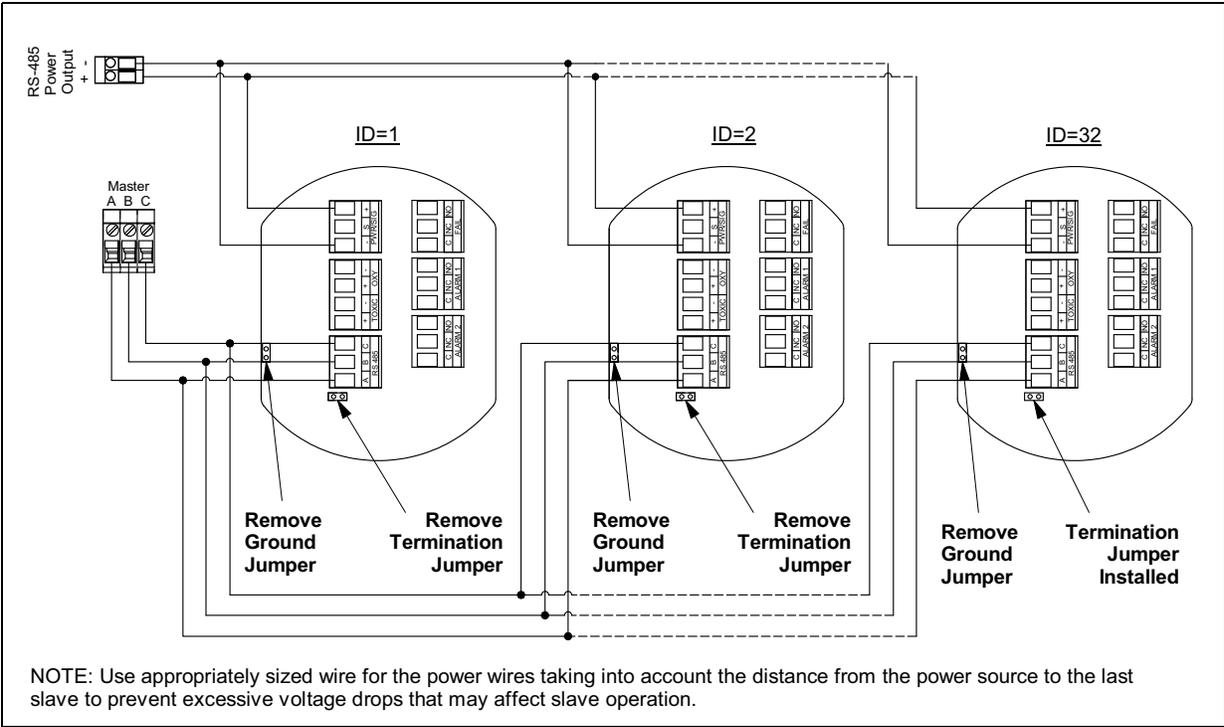
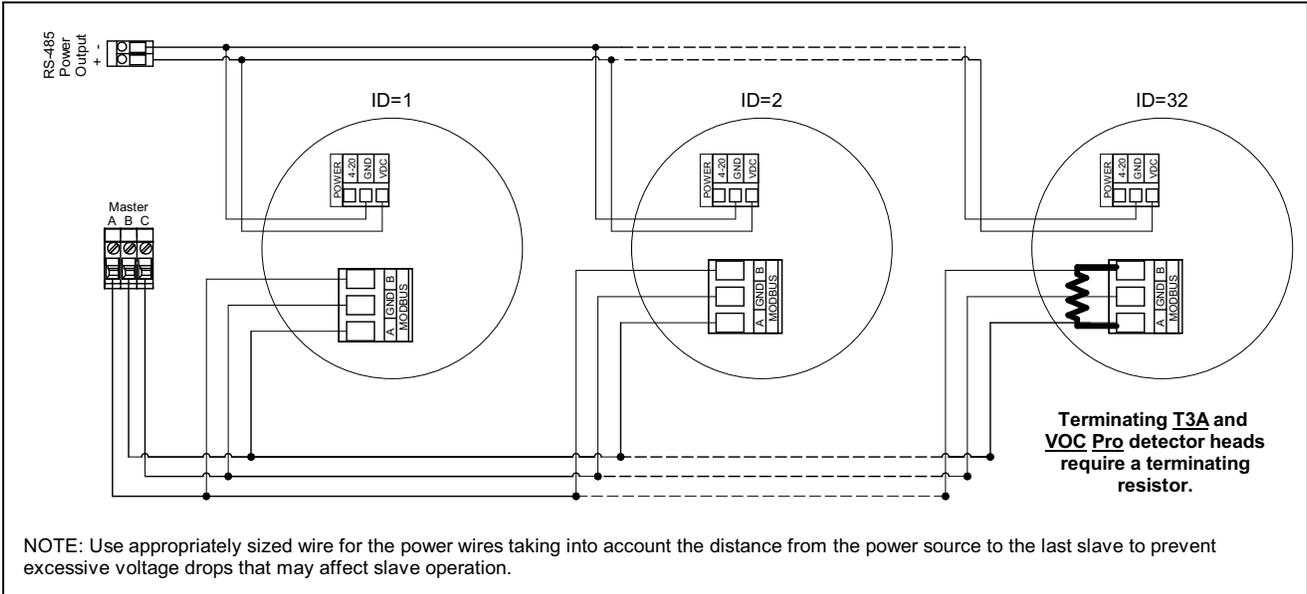
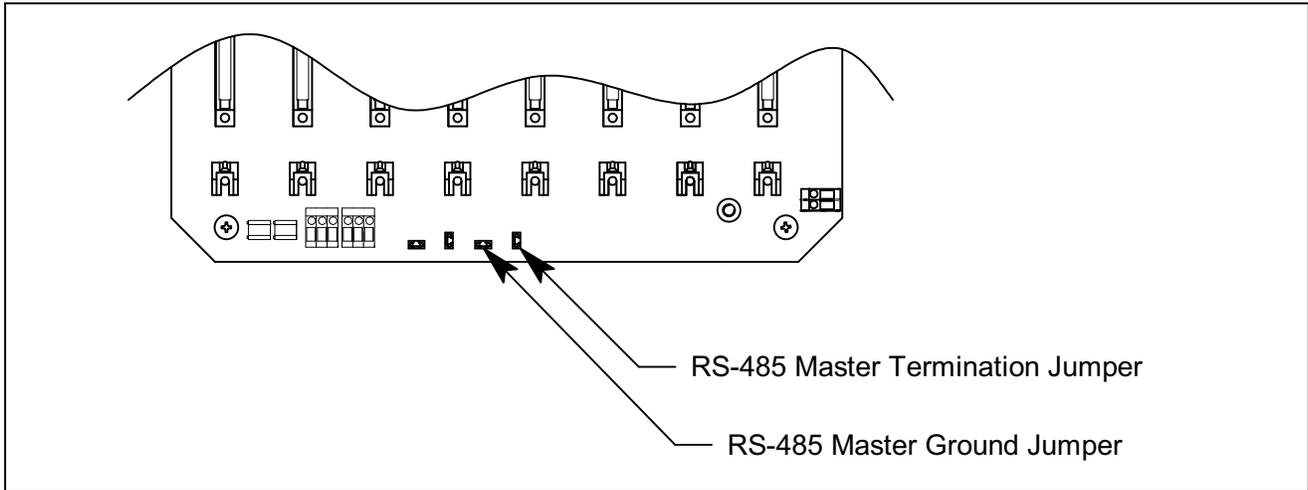
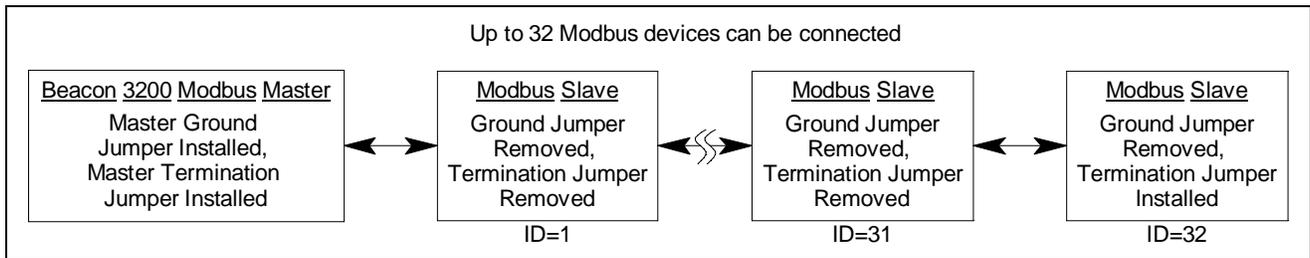

Figure 16: Modbus Master Wiring for M2A Detector Heads
Figure 17: Modbus Master Wiring for T3A and VOC Pro Detector Heads
Figure 18: Modbus Master Jumper Locations
Figure 19: Jumper Configuration (Beacon 3200 as Modbus Master)
The Beacon 3200 supports up to 32 Modbus detectors (M2As, VOC Pros, T3As, or some combination of these) connected together without the need for a repeater. Figure 16 and Figure 17 illustrate typical Beacon 3200 wiring configurations.
1. Connect the slave device(s) to the Beacon 3200 RS-485 Master terminals in the lower left corner of the main PCB and to power as shown in Figure 16 (for M2A) and Figure 17 (T3A/ VOC Pro).
The Beacon 3200's RS-485 Modbus Power Output is shown powering the slaves in Figures 16 and 17, but a user supplied power supply may be used instead. See the M2A, T3A, or VOC Pro manuals for the detector head power requirements.
- Configure the Beacon 3200's ground and termination jumpers (locations shown in Figure 18) as shown in Figure 19. Leave the Beacon 3200 master ground jumper in place or install it if it has been removed. The termination jumper must be installed at each end of the Modbus system.
- For M2A slave devices, configure the ground and termination jumpers as shown in Figure 16 and Figure 19.